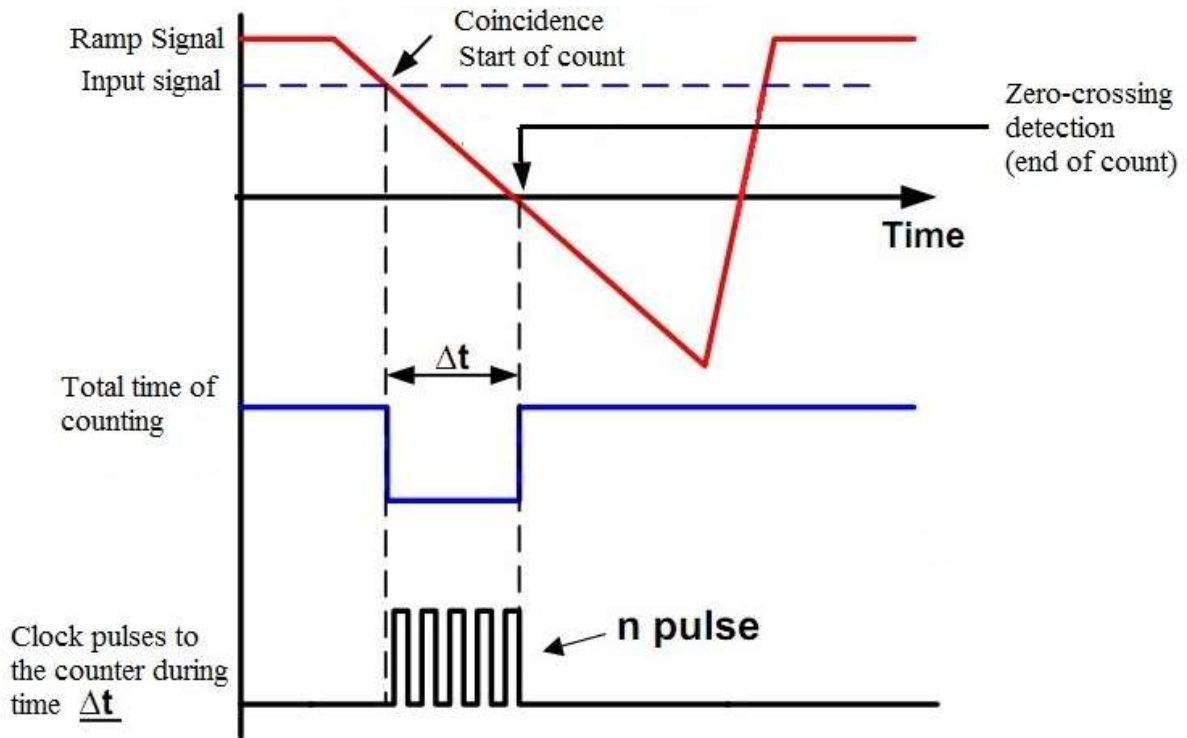

Fig. 4 – Waveform analysis for Q.4 (a)
Q.4 (a) From the diagram shown in Fig. 4 below, identify which type of instrument is being used & to measure which kind of electrical signal / input quantity. Describe the operation of that instrument with a neat block diagram. **20**